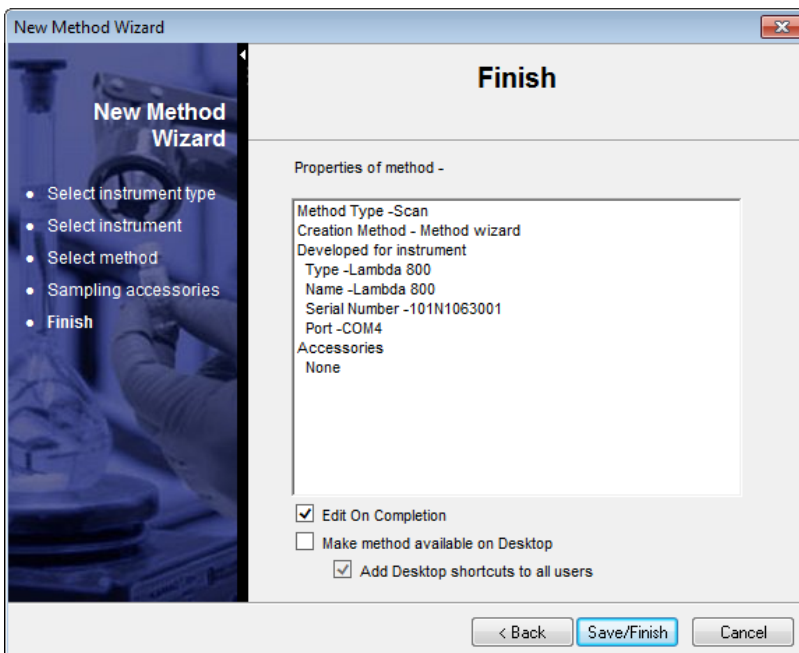

Figure 9: Finalizing new method properties.
- Check the “Edit on completion” box, click <**Save/Finish**> (Figure 9)